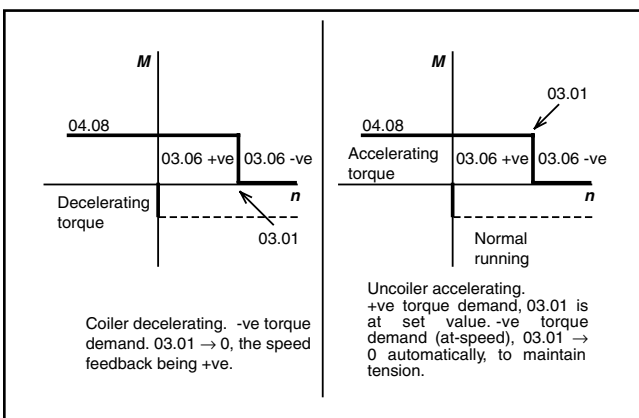

Figure 10-9.
04.12 = 1 and 04.13 = 1 Coiler/uncoiler control mode. Refer to Figure 10-9.